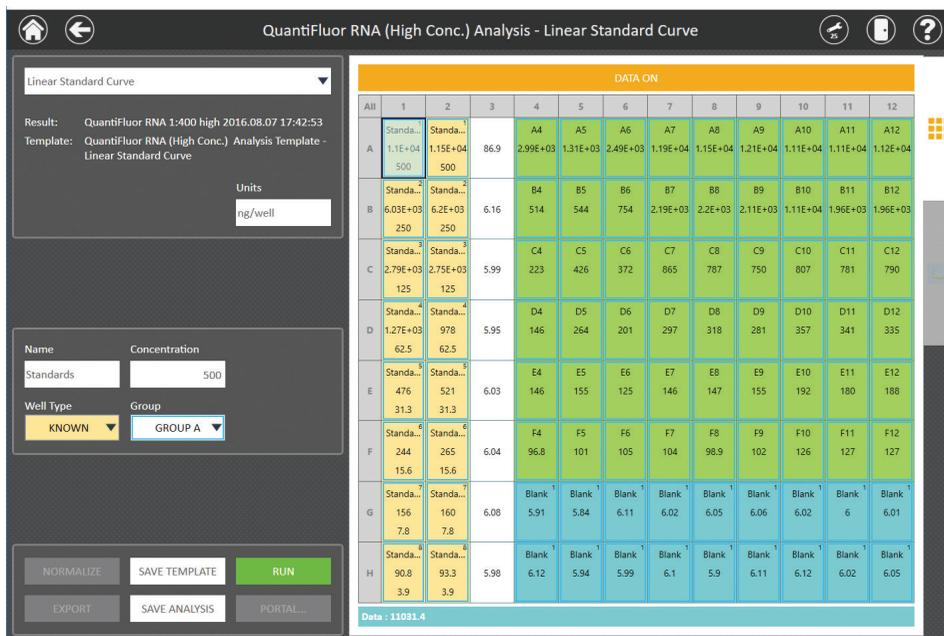

Figure 74. Analysis screen displaying the Portal button.
1. After running the analysis and assessing your data, press the **Portal...** button to open the 'Portal Data Export' screen (Figure 74).